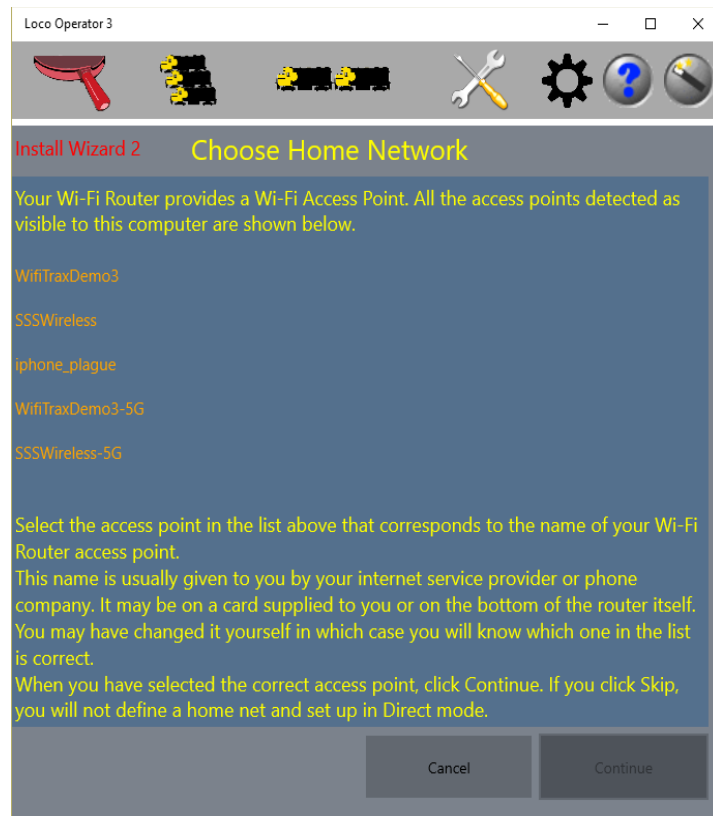

Figure 45 Selecting a Wi-Fi Access Point for your Home Net
- (3) Install Wizard 2 is now displayed as in Figure 45. Select the network in the list that corresponds to the name of your home Wi-Fi access point. This is called the SSID. You will be using the same SSID when you connect your phone or tablet to your home Wi-Fi network. Select the correct network and click Continue.